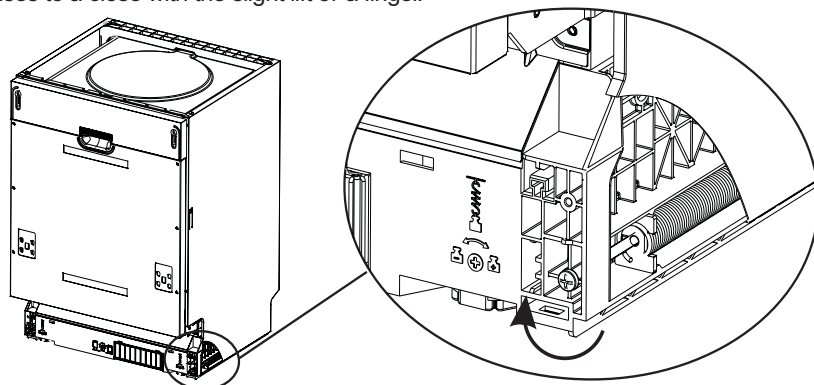

Figure 5 - Tension adjustment of the door spring
- The door springs are set at the factory to the proper tension for the outer door. If aesthetic wooden panels are installed, you will have to adjust the door spring tension. Rotate the adjusting screw to drive the adjustor to strain or relax the steel cable (see figure 5).